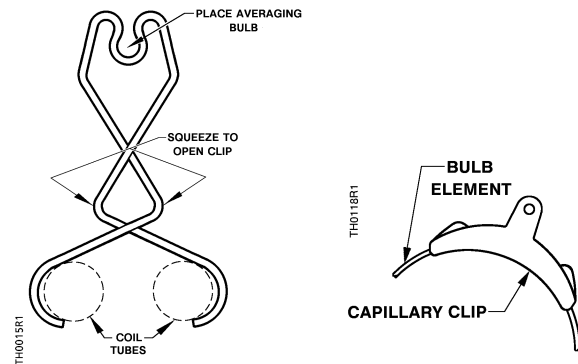
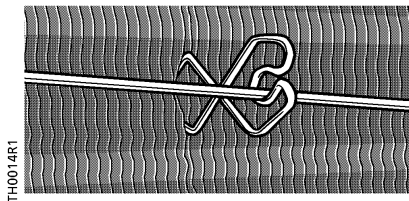

Figure 4. Clips, 356-115 and 7421700060.
Figure 5. Clip Mounted on Coil.
- When the bulb is mounted in a unit ventilator, use coil clip No. 356-115 to support the bulb in the air stream close to the coil. See Figure 4 and Figure 5.
- Use a coil clip, Part No. 356-115 (Figure 4 and Figure 5) or a capillary clip, Part No. 7421700060 (Figure 4), to support the bulb if there is easy access to the coil.